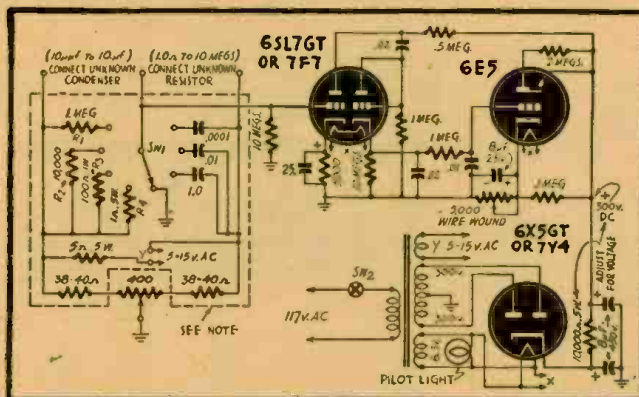

Fig. 2—Three-tube condenser checker using electron-ray indicator.
A. The diagram shown (See Fig. 2) is of a condenser tester which can be built from standard parts. The final accuracy of the finished unit will depend on the accuracy standards and care used in calibrating the 400-ohm potentiometer, which should be a wire-wound type. The components inside the dashed-line square should be of the highest accuracy, those outside this area being ordinary circuit components and requiring no more than ordinary tolerances, say 5 to 10 percent.